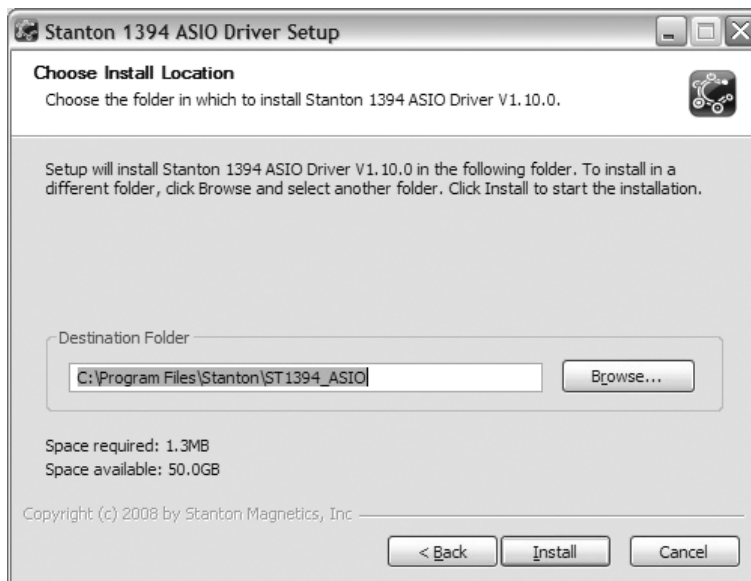

Figure 4.6
6. In this step, you are able to choose where to install the driver. However, if you do not really need to change the location, leave the default setting and click **Install**. (Figure 4.6)